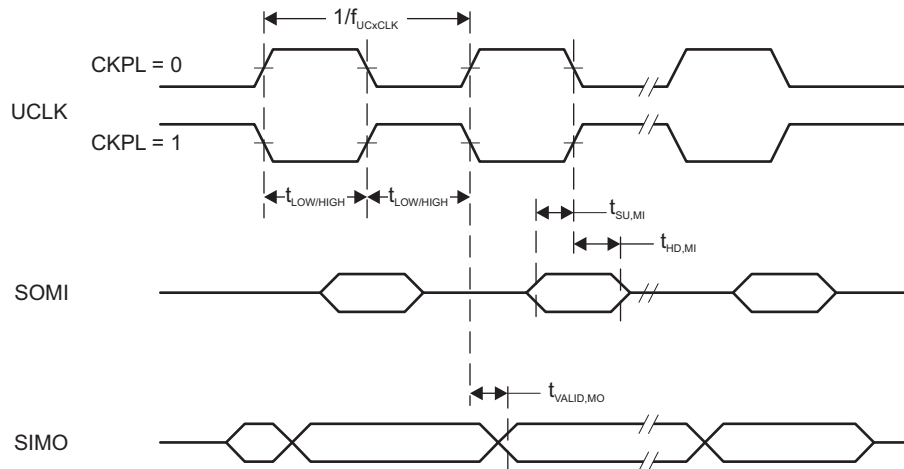
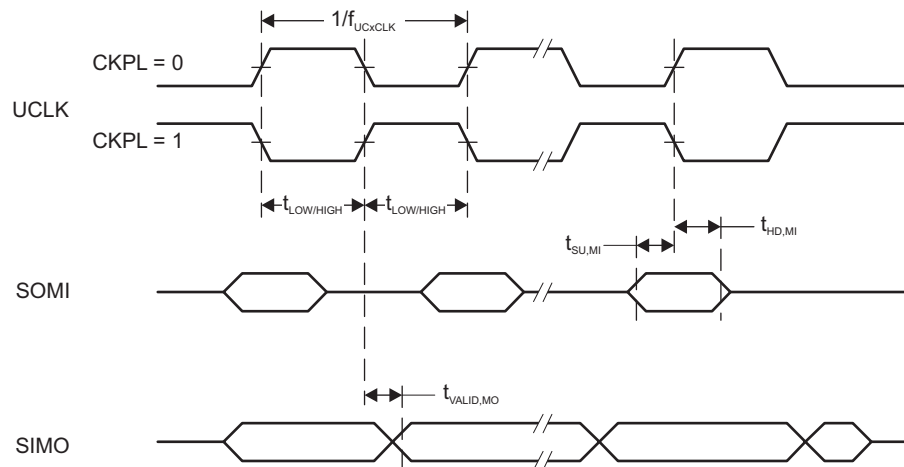

Figure 5-9. SPI Master Mode, CKPH = 0
Figure 5-10. SPI Master Mode, CKPH = 1
- (2) Specifies the time to drive the next valid data to the SIMO output after the output changing UCLK clock edge. See the timing diagrams in Figure 5-9 and Figure 5-10.
- (3) Specifies how long data on the SIMO output is valid after the output changing UCLK clock edge. Negative values indicate that the data on the SIMO output can become invalid before the output changing clock edge observed on UCLK. See the timing diagrams in Figure 5-9 and Figure 5-10.